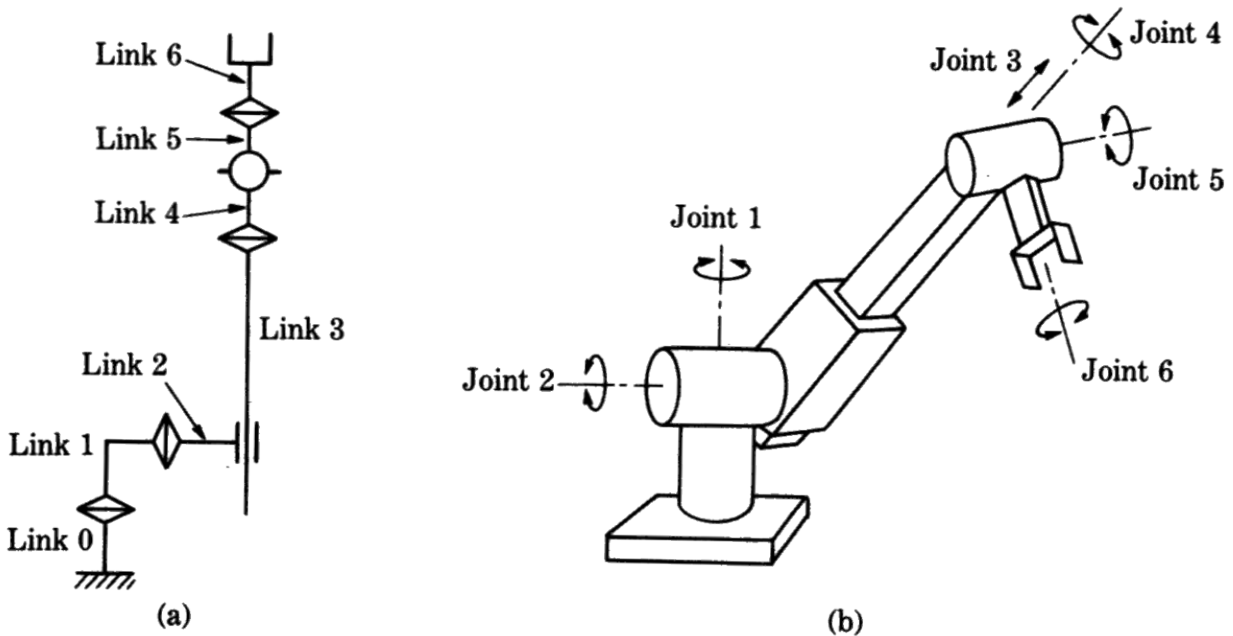

Figure 3: Stanford manipulator.
Task 2.3 (3 points) DH-Parameter Stanford manipulator: The Stanford manipulator has five revolute joints and one prismatic joint. Figure 3(a) illustrates the general idea and figure 3(b) shows the general configuration of a Stanford manipulator. Assume the distance between joint 1 and joint 2 to be d_2 . Specify the coordinate frame of each joint and present the corresponding Denavit-Hartenberg (DH) parameters as a table.